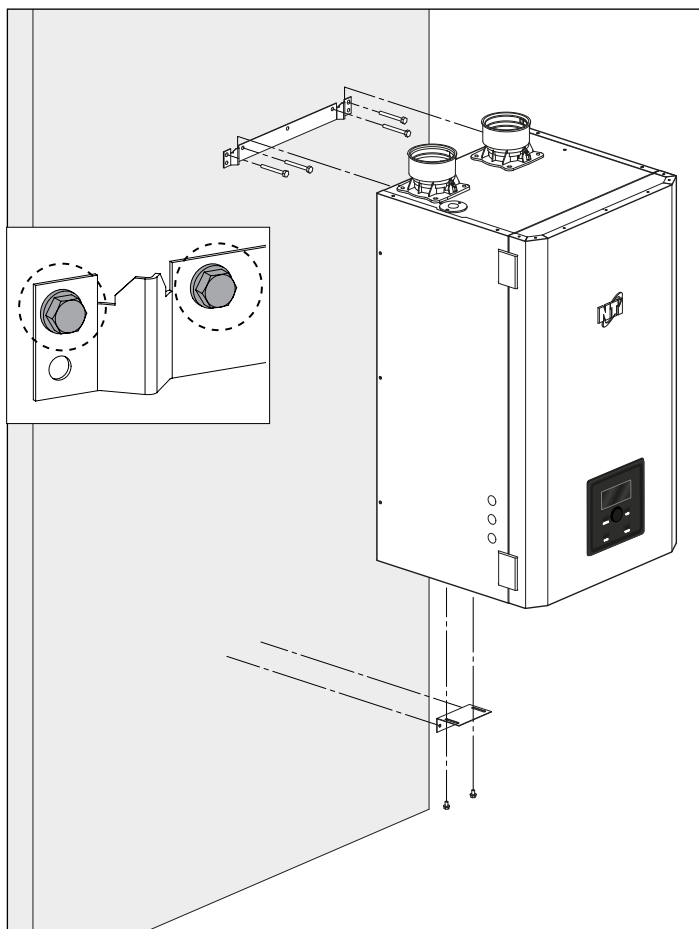

Figure 5 - Mounting to a Concrete Wall
1. Position the upper wall mounting bracket on the concrete wall. Ensure the bracket is level. Then use the bracket as a template to mark four (4) drilling holes on the wall - two (2) on each side of the bracket. See Figure 5 for details.
1. Position the upper wall mounting bracket on the wall. Ensure the bracket is level and the drilling holes are on stud. Then use the bracket as a template to mark four (4) drilling holes on the wall - two (2) on each side of the bracket. See Figure 5 for details.